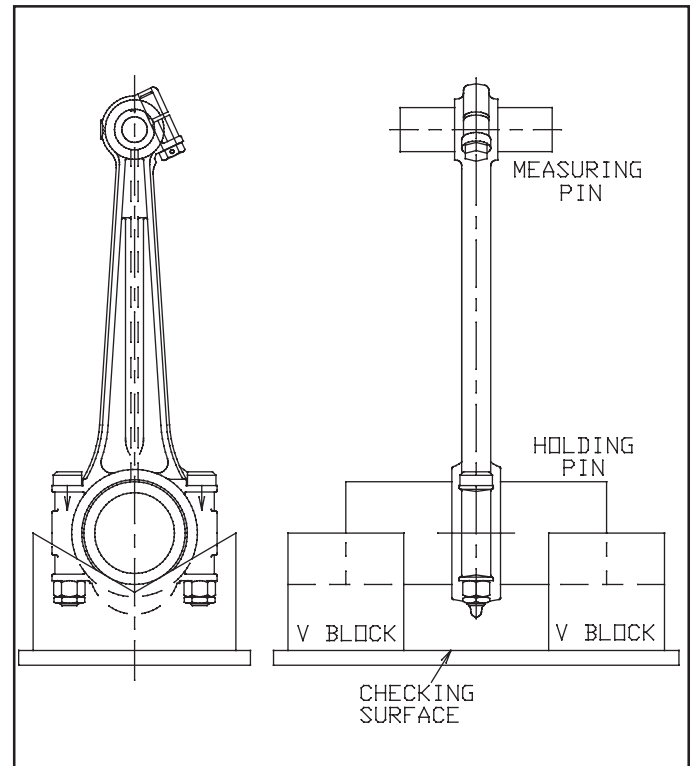

Figure 13 - Connecting Rod Arrangement for Checking Alignment
Reference Figure 13
14.8.5 Place the pin at the crankpin end of the connecting rod between a pair of "V" blocks on a flat checking surface as shown in Figure 13. With the connecting rod perpendicular to the checking surface, check the distance from the checking surface to the highest point at both ends of the wrist pin. This check should be made with a dial indicator. The reading from the checking surface to both ends of the wrist pin **MUST BE** within 0.001" (0.025 mm) for every 6" (152.4 mm) length of wrist pin.